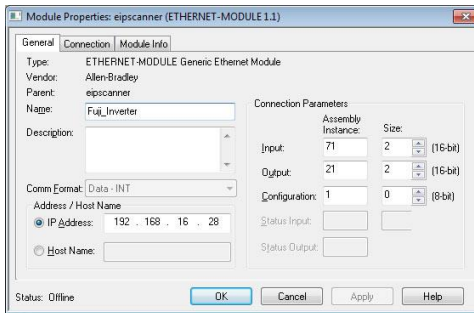

Figure 44: AC/DC Drive Profile Generic Ethernet Module Configuration
- 1) Complete all the steps in section 10.2.11. Please note that the Assembly Input Instance must be changed to 71 and the Assembly Output Instance must be changed to 21. Refer to Figure 44.